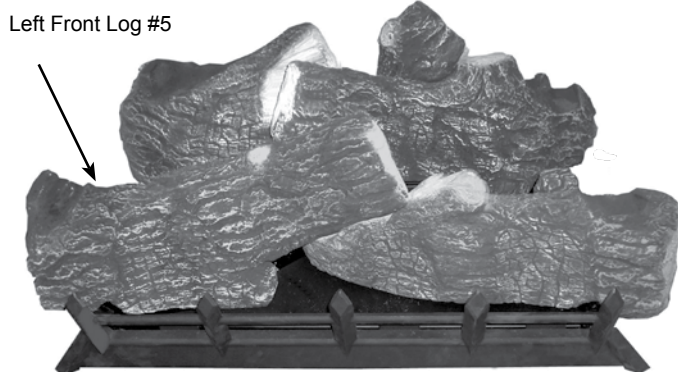

Figure 6.7 - Log #5 Placement
- Place left front log (#5) on left pin located on burner and left grate bar. Rest top right portion of log on right front log. See Figure 6.7.